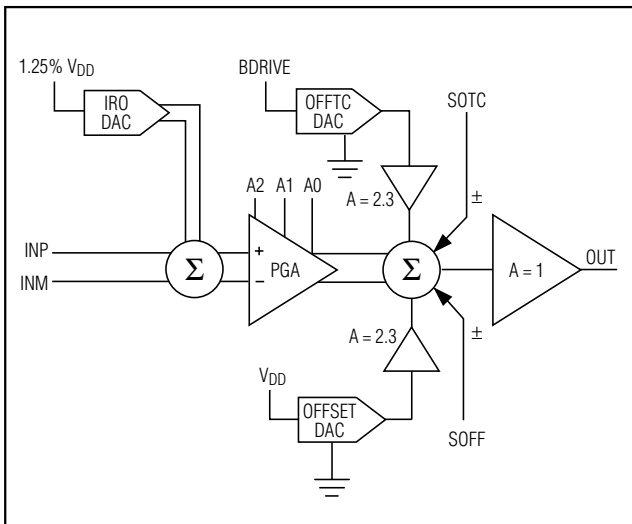

Figure 3. Signal-Path Block Diagram
Compensating offset TC errors involves first measuring the uncompensated offset TC error, then determining what percentage of the temperature-dependent voltage  $V_{\text{BDRIVE}}$  must be added to the output summing junction to correct the error. Use the offset TC DAC to adjust the amount of BDRIVE voltage that is added to the output summing junction (Figure 3).
- Differential to single-ended output buffer with rail-to-rail output (Figure 3)